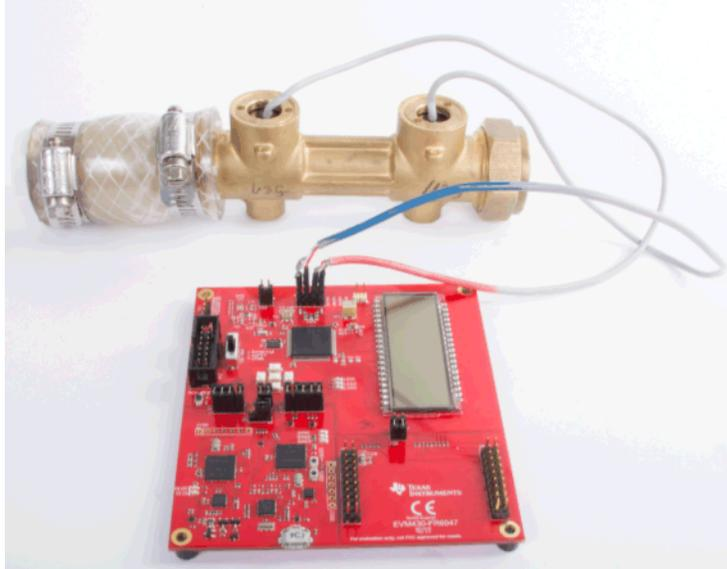

Figure 2-1. EVM430-FR6047 Connected to Flow Meter
1. Connect the EVM430-FR6047 to the flow meter (see Figure 2-1).